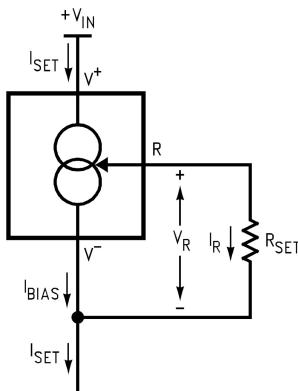

Figure 13. Basic Current Source
- (1) Unless otherwise specified, tests are performed at T_j = 25°C with pulse testing so that junction temperature does not change during test
- (2) Set current is the current flowing into the V⁺ pin. For the Basic 2-Terminal Current Source circuit shown in Figure 13, I_{SET} is determined by the following formula: I_{SET} = 67.7 mV/R_{SET} (@ 25°C). Set current error is expressed as a percent deviation from this amount. I_{SET} increases at 0.336%/°C @ T_j = 25°C (227 µV/°C).
- (3) I_{SET} is directly proportional to absolute temperature (°K). I_{SET} at any temperature can be calculated from: I_{SET} = I_o (T/T_o) where I_o is I_{SET} measured at T_o (°K).
The total current through the LM134 (I_{SET}) is the sum of the current going through the SET resistor (I_R) and the LM134's bias current (I_{BIAS}), as shown in Figure 13.